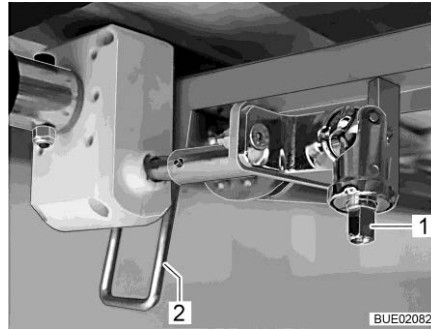

Fig. 137 Height adjustment
- Attach the crank onto the journal (Fig. 137,1).
- Swivel the lever (Fig. 137,2) downwards into vertical position.
- Swivel the lever (Fig. 137,2) upwards into horizontal position.